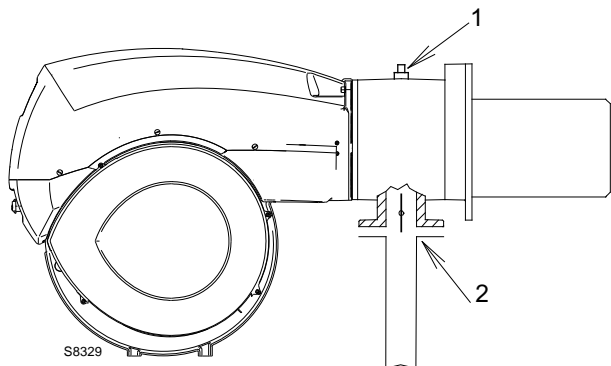

Fig. 28
Gas pressure measured at the test point 1)(Fig. 28), with:
Pressure loss at gas butterfly valve 2)(Fig. 28) with maximum opening: 90°.
- subtract the combustion chamber pressure from the gas pressure measured at test point 1)(Fig. 28);
- Gas pressure at test point 1)(Fig. 28) = 11.7 "WC